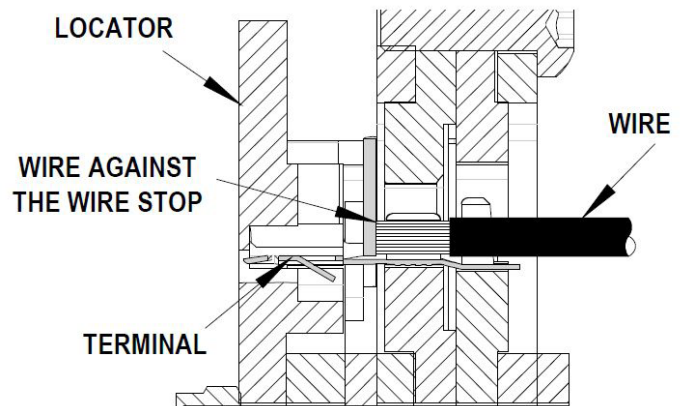

Figure 2
2. Push the wire stop lever on the side of the hand tool to raise the wire stop up before inserting the terminal in the hand tool. See Figure 2.
3. With the wire stop lever pushed in, load the terminal into the proper nest opening marked with the wire gauge on the hand tool. See Figure 2.
6. Insert the properly stripped wire through the terminal and against the wire stop. See Figure 2.